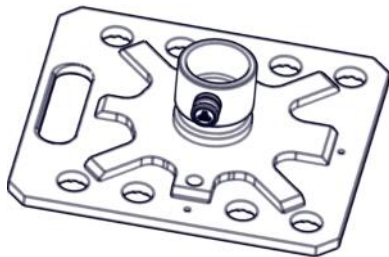

Figure 1-15. Swivel Base 12
l. **Swivel Base 12.** The Swivel Base 12 (Figure 1-15) is similar Swivel Strut Base 6 except with a 12" base plate with 8 holes to accept 1" (2.5 cm) pickets.